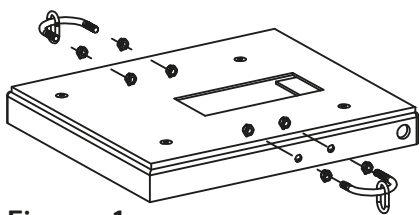

Figure 1
1. Install 8 x M8 Nut (26) and 2 x U Bolt with Chain (27) onto both sides of Platform Plate (25) as shown in Figure 1. Ensure that the M8 Nut (26) are tighten enough.